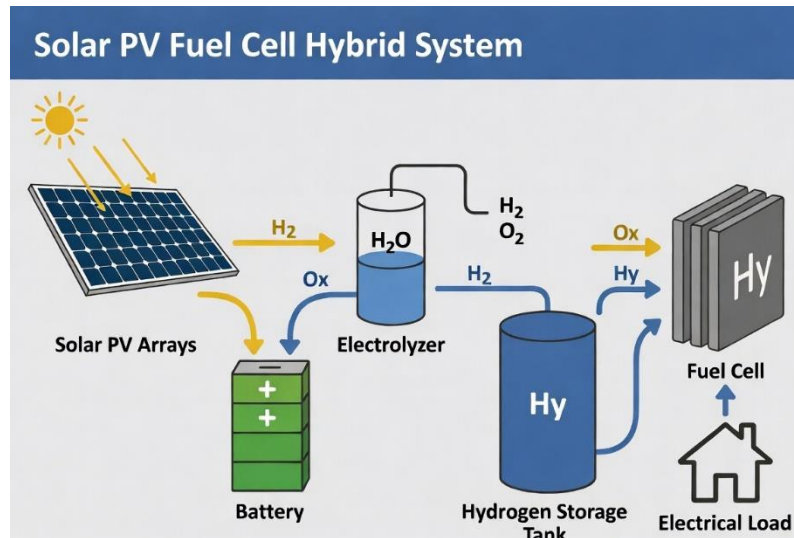

Figure 3.1 Solar PV-Fuel Cell Hybrid System
Solar photovoltaic (PV) systems convert sunlight directly into electricity. When integrated with fuel cells, excess solar energy can be used to produce hydrogen through electrolysis, which is later converted back into electricity using fuel cells. Figure 3.1 shows solar PV-fuel cell hybrid system which has PV arrays, electrolyzer, hydrogen storage, fuel cell, battery, and load connections. The components of a PV-fuel cell hybrid system include: